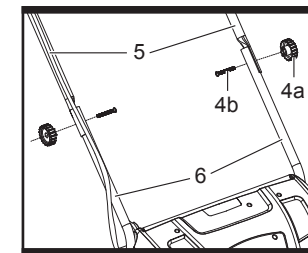

Fig. 2
- b). Align the middle handle bars (5) to the lower ones (6). Make sure the holes of the handle bars (5, 6) correspond and secure them with one mounting set (4) on each side. (See Fig. 2).